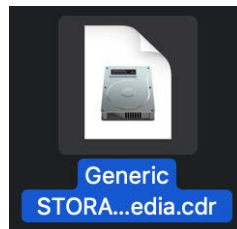

Figure 5.13 – File with .cdr extension
8. Disk Utility gives these files a **.cdr** extension (*Figure 5.13*):